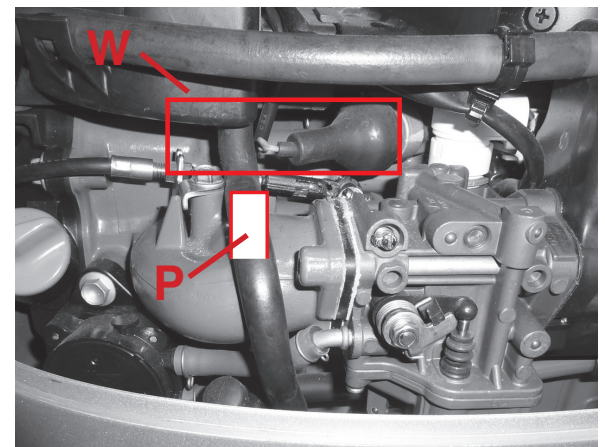
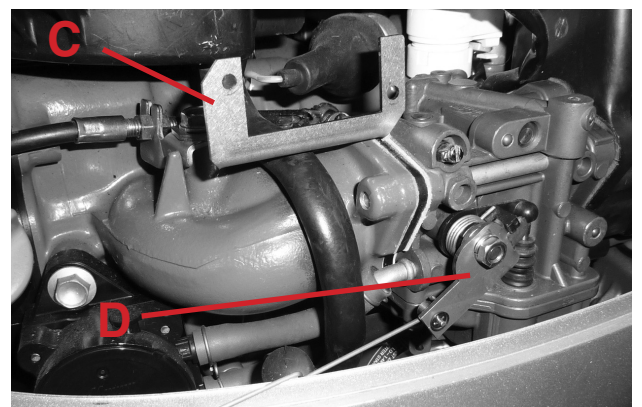

Figure 2
Figure 3
- A: There is a wiring harness located in the area "W" as shown in Fig. 2.
D: Remove wiring harness mounting bracket and bolt that is mounted on post "P" in Fig. 2. Save bracket and bolt to allow motor to be returned to stock.
B: If motor does NOT have post ("P" - Fig. 2) on intake manifold, install servo bracket "C" as shown in Fig. 3 using factory bolt removed above.
B: Use supplied thread cutting bolt to mount servo bracket "C" (Fig. 3).
B: Install throttle plate assembly "D" (Fig. 3) as shown. Reinstall / tighten lock washer and nut.
Step 13 - See Fig 3 & 4